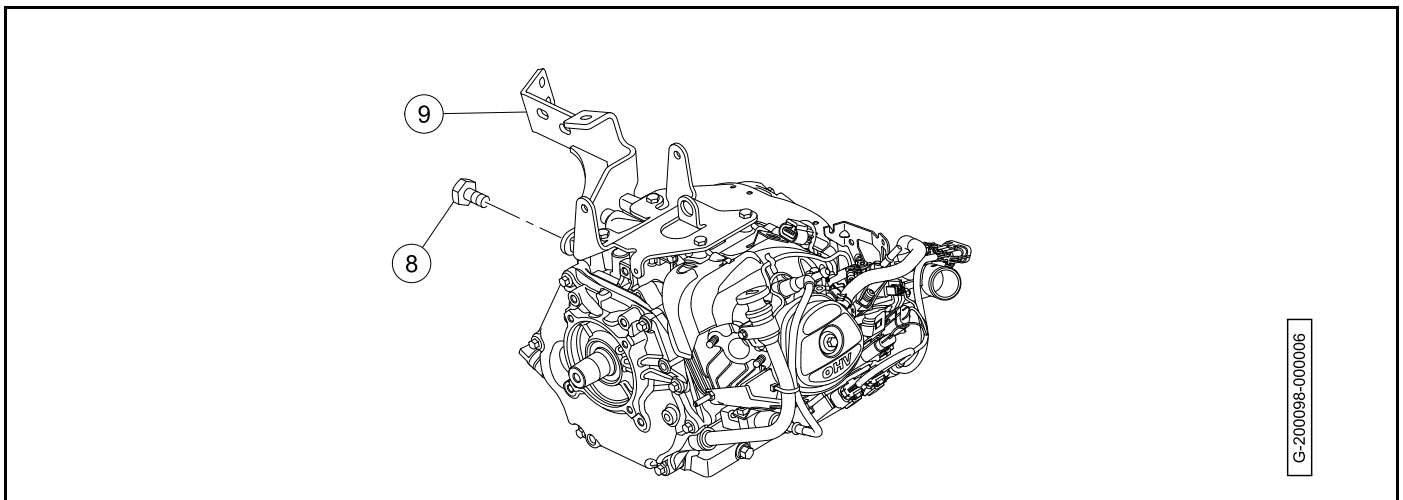

Figure 21-3 Exhaust Weldment Removal
17. Remove the clutch plate (7).
18. Remove the bolts (8) (Figure 21-3, Page 21-3).